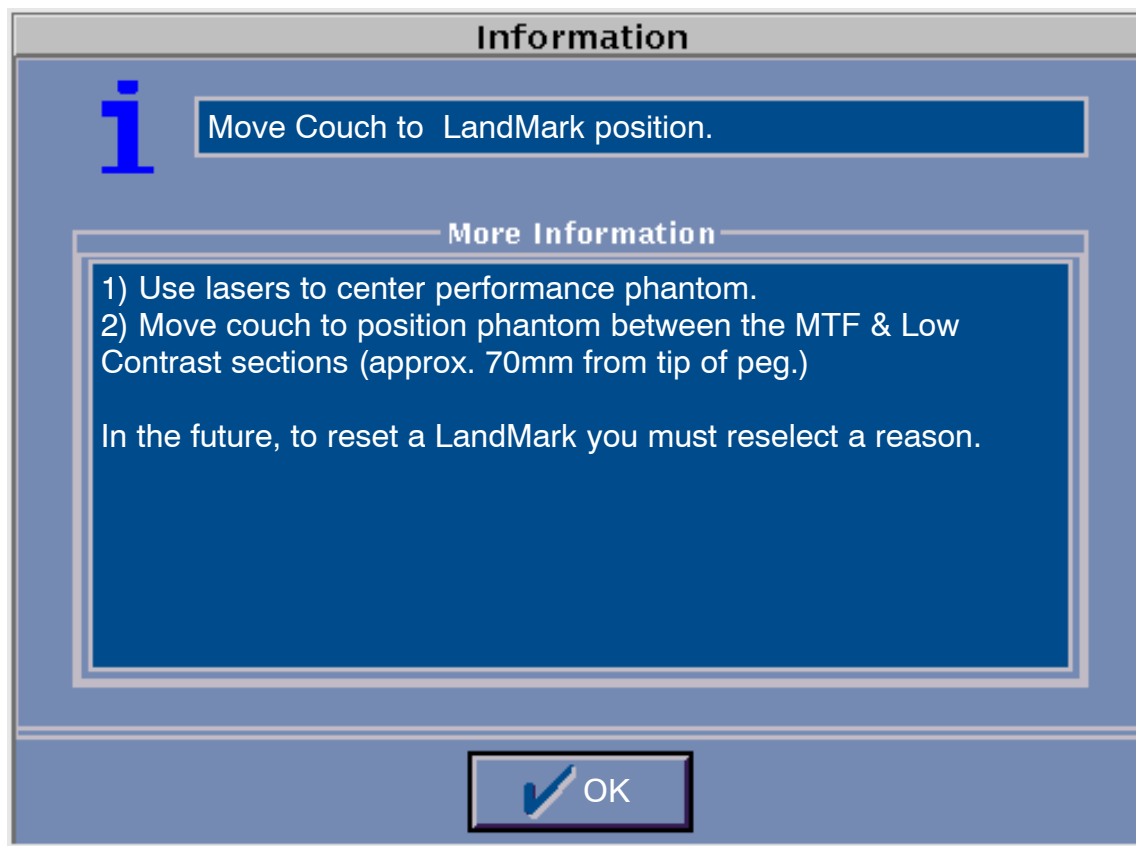

FIGURE 111 MANUAL PERFORMANCE / CALIBRATION INFORMATION WINDOW
2. After the text is highlighted, type in the new value. For example, select 130kV and type in 120kV. After the text is edited, save the file and close the text editor window. When closing the editor, you will be prompted with a information about the steps you should perform. Refer to Figure 111. (In this example, the ManFind_Centering Reason was chosen.) Click on OK to continue.